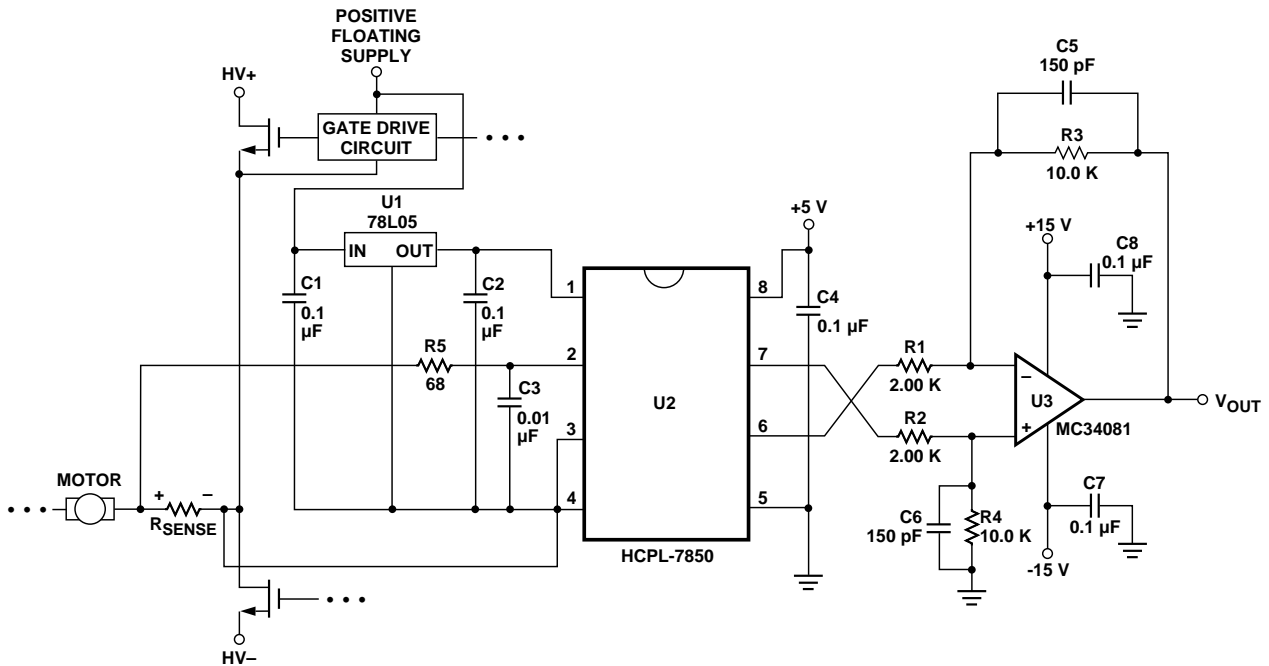

Figure 24. Recommended Application Circuit.
8. CMR (also known as IMR or Isolation Mode Rejection) specifies the minimum rate of rise of a common mode signal applied across the isolation boundary at which small output perturbations begin to occur. These output perturbations can occur with both the rising and falling edges of the common mode waveform and may be of either polarity. A CMR failure is defined as a perturbation exceeding 200 mV at the output of the recommended application circuit (Figure 24). See Applications section for more information on CMR.
The recommended application circuit is shown in Figure 24. A floating power supply (which in many applications could be the same supply that is used to drive the high-side power transistor) is regulated to 5 V using a simple three-terminal voltage regulator (U1). The voltage from the current sensing resistor, or shunt (Rsense), is applied to the input of the HCPL-7850 through an RC anti-aliasing filter (R5, C3). And finally, the differential output of the isolation amplifier is converted to a ground-referenced
As shown in Figure 24, a 0.1  $\mu\text{F}$  bypass capacitor (C2, C4) should be located as close as possible to the input and output power supply pins of the HCPL-7850. The bypass capacitors are required because of the high-speed digital nature of the signals inside the isolation amplifier. A 0.01  $\mu\text{F}$  bypass capacitor (C3) is also recommended at the input pin(s) due to the switched-capacitor nature of the input circuit. The input bypass capacitor should be at least 1000 pF to maintain gain accuracy of the isolation amplifier.
The recommended method for connecting the isolation amplifier to the shunt resistor is shown in Figure 24. Pin 2 ( $V_{\text{IN}+}$ ) is connected to the positive terminal of the shunt resistor, while pin 3 ( $V_{\text{IN}-}$ ) is shorted to pin 4 (GND1), with the power-supply return path functioning as the sense line to the negative terminal of the current shunt. This allows a single pair of wires or PC board traces to connect the isolation amplifier circuit to the shunt resistor. In some applications, however, supply currents flowing through the power-supply return path may cause offset or noise problems. In this case, better performance may be obtained by connecting pin 3 to the negative terminal of the shunt resistor separate from the power supply return path. When connected this way, both input pins should be bypassed. Whether two or three wires are used, it is recommended that twisted-pair wire or very close PC board traces be used to connect the current shunt to the isolation amplifier circuit to minimize electromagnetic interference to the sense signal.
The recommended application circuit (Figure 24) includes a post-amplifier circuit that serves three functions: to reference the output signal to the desired level (usually ground), to amplify the signal to appropriate levels, and to help filter output noise. The particular op-amp used in the post-amp is not critical; however, it should have low enough offset and high enough bandwidth and slew rate so that it does not adversely affect circuit performance. The offset of the op-amp should be low relative to
To maintain overall circuit bandwidth, the post-amplifier circuit should have a bandwidth at least twice the minimum bandwidth of the isolation amplifier, or about 200 kHz. To obtain a bandwidth of 200 kHz with a gain of 5, the op-amp should have a gain-bandwidth greater than 1 MHz. The post-amplifier circuit includes a pair of capacitors (C5 and C6) that form a single-pole low-pass filter. These capacitors allow the bandwidth of the post-amp to be adjusted independently of the gain and are useful for reducing the output noise from the isolation amplifier (doubling the capacitor values halves the circuit bandwidth). The component values shown in Figure 24 form a differential amplifier with a gain of 5 and a cutoff frequency of approximately 100 kHz, and were chosen as a compromise between low noise and fast response times. The overall recommended application circuit has a bandwidth of 66 kHz, a rise time of 5.2  $\mu\text{s}$  and a delay to 90% of 8.5  $\mu\text{s}$ .